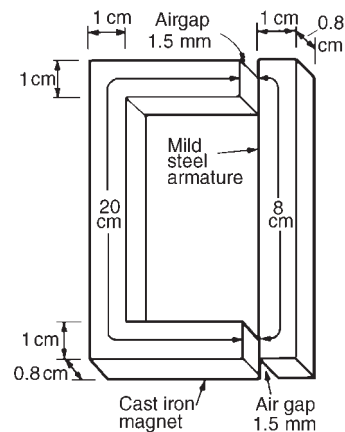

Figure 7.8
- 19 Figure 7.8 shows the magnetic circuit of a relay. When each of the air gaps are 1.5 mm wide find the mmf required to produce a flux density of 0.75 T in the air gaps. Use the $B-H$ curves shown on page 78.